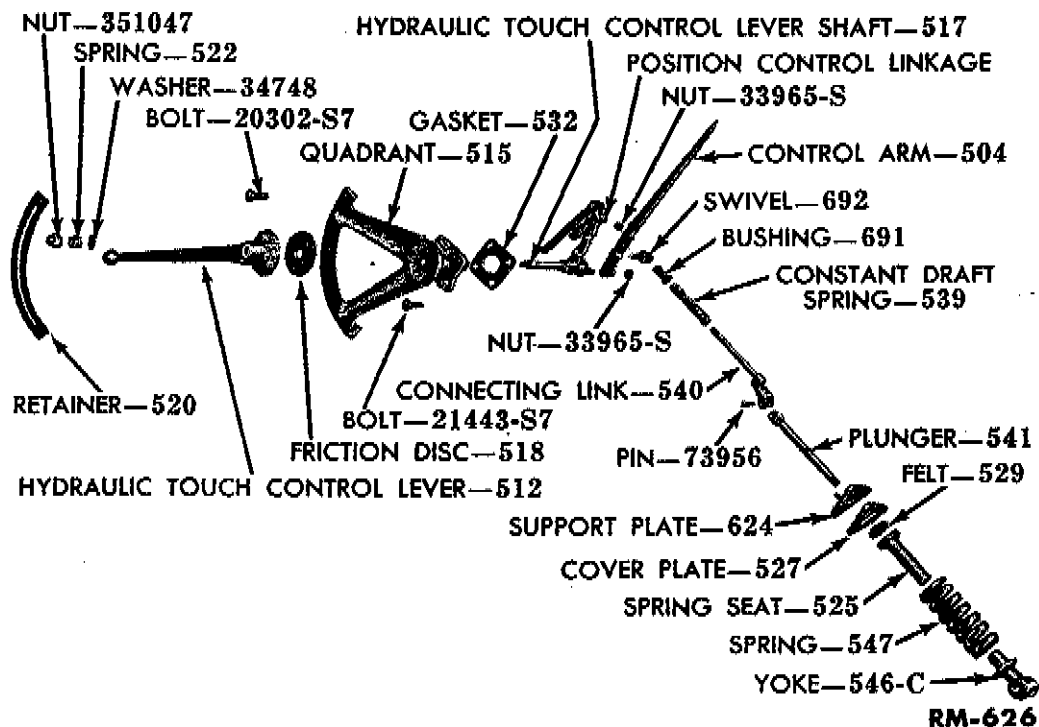

Fig. 18—Hydraulic Control Linkage
(2) **REMOVE CONTROL LINKAGE.** Remove the hydraulic touch control lever retainer (fig. 18) from the quadrant. Remove the nut, spring and flat washer that secure the hydraulic touch control lever shaft. Remove the hydraulic touch control lever, woodruff key, and the friction disk from the shaft.
Position the three-cornered plate with the pin at the top on the hydraulic unit cover and secure with three cap screws. Install a new felt washer in the control spring seat. In control spring, and yoke (fig. 18). Moun gasket, on the hydraulic unit cover. Ins